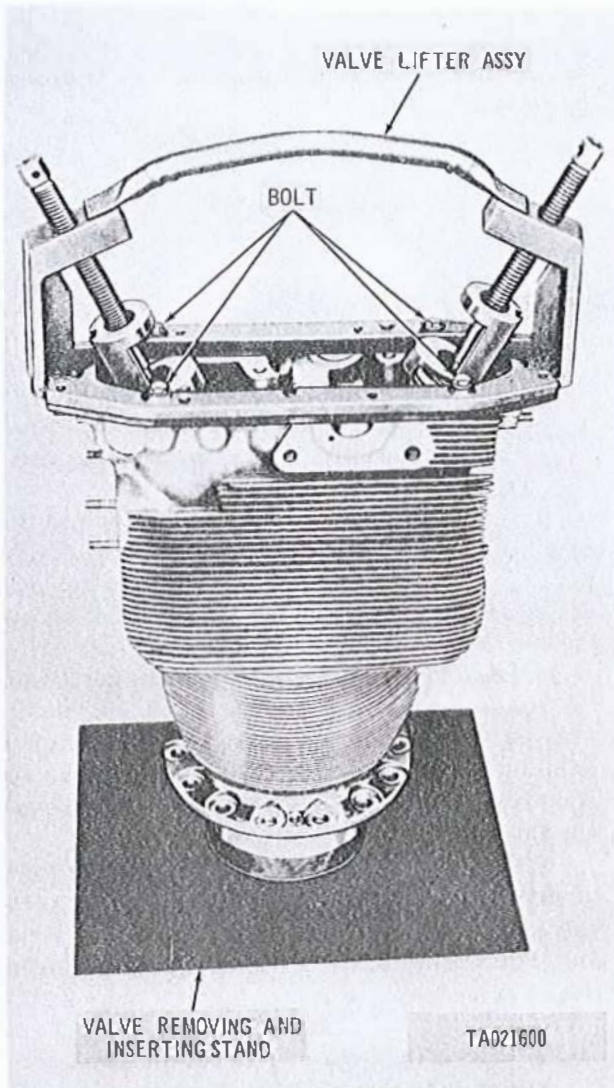

Figure 3-186. Cylinder showing position of valve lifter assembly and removing and inserting valve stand.
(1) Place cylinder with valves, springs, and retainers on removing and inserting valve stand (fig. 3-186).
(2) Secure valve lifter assembly Part No. 8761535 (fig. 3-186) to the cylinder head with four cover bolts and flat washers.